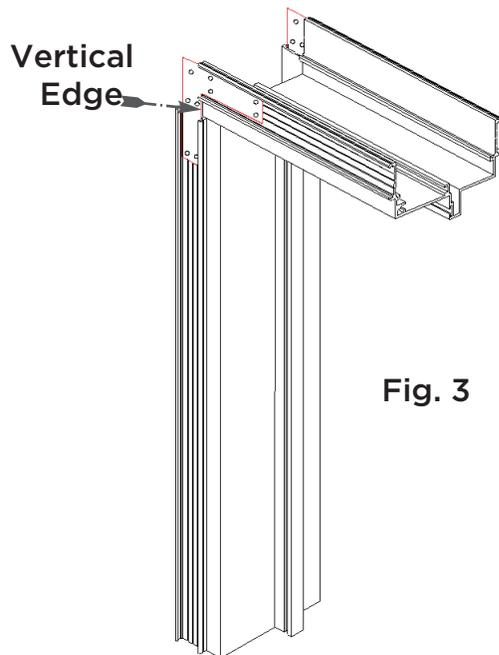

Fig. 3
- a.) If doors are not premortised, then use a square to attain a 90° corner between head & jambs. Head must butt up to vertical edge of clip (Fig. 3) and set flat in alignment and groove (Fig. 4). You can then attach clips with #8 x 3/4" Tek screws.
9. Pull header down to door, allowing 1/8" spacing. Install corner clips (Fig. 3 & 4) and secure to wall.